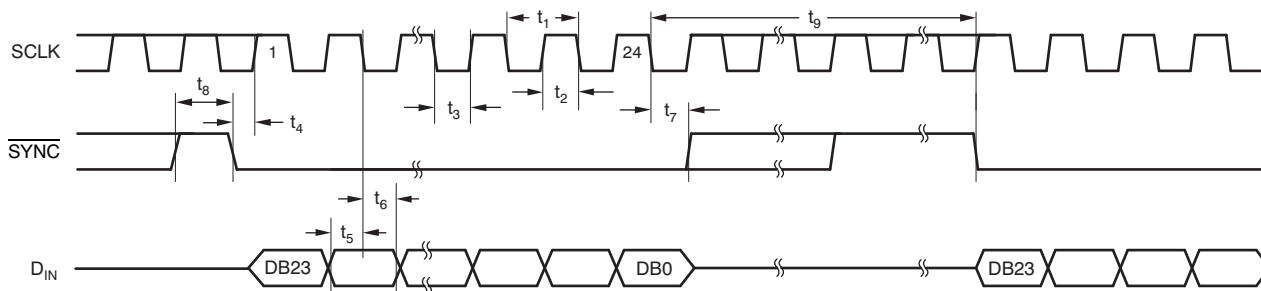

Figure 1. Serial Write Operation
- (1) All input signals are specified with t_R = t_F = 5 ns (10% to 90% of V_{DD}) and timed from a voltage level of (V_{IL} + V_{IH}) / 2.
- (2) See Figure 1.
- (3) Maximum SCLK frequency is 30 MHz at V_{DD} = 3.6 V to 5.5 V and 20 MHz at V_{DD} = 2.7 V to 3.6 V.